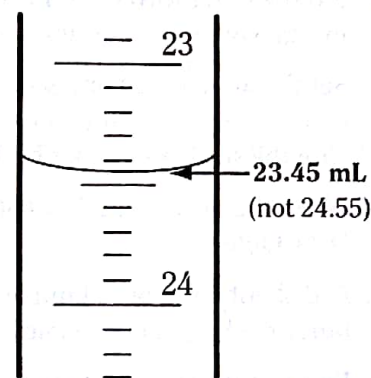

Figure 3. How to read a buret volume.
9. Measure the precise volume of the solution in the buret and record this value in Data Table 1 as the "initial volume." *Note:* Volumes are read from the top down in a buret. Always read from the bottom of the meniscus, remembering to include the appropriate number of significant figures. (See Figure 3.)